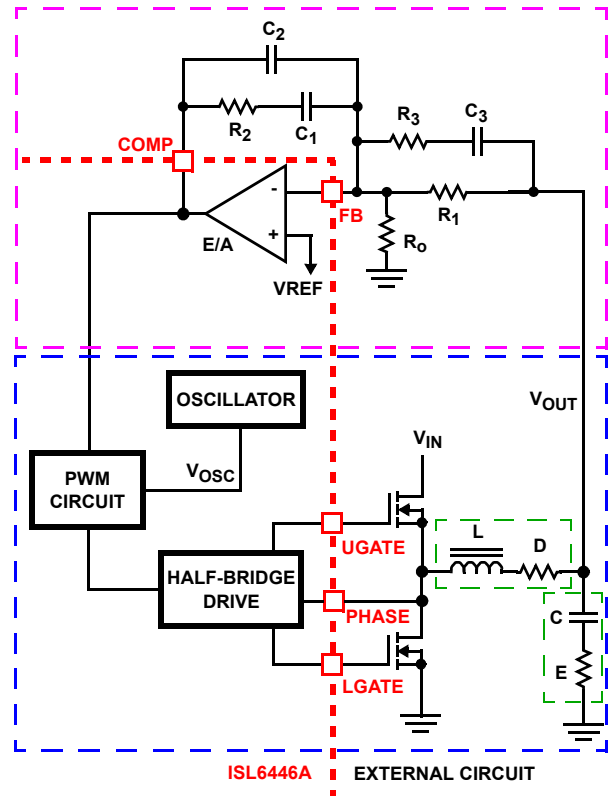

FIGURE 26. VOLTAGE-MODE BUCK CONVERTER COMPENSATION DESIGN
Figure 26 highlights the voltage-mode control loop for a synchronous-rectified buck converter, applicable to the ISL6446A circuit. The output voltage (V_{OUT}) is regulated to the reference voltage, V_{REF} . The error amplifier output (COMP pin voltage) is compared with the oscillator (OSC) modified sawtooth wave to provide a pulse-width modulated wave with an amplitude of V_{IN} at the PHASE node. The PWM wave is smoothed by the output filter (L and C). The output filter capacitor bank's equivalent series resistance is represented by the series resistor E.
The compensation network consists of the error amplifier (internal to the ISL6446A) and the external R_1 to R_3 , C_1 to C_3 components. The goal of the compensation network is to provide a closed loop transfer function with high 0dB crossing frequency (F_0 ; typically 0.1 to 0.3 of f_{SW}) and adequate phase margin (better than 45°). Phase margin is the difference between the closed loop phase at F_{0dB} and 180° . The equations that follow relate the compensation network's poles, zeros and gain to the components (R_1 , R_2 , R_3 , C_1 , C_2 and C_3) in Figure 26. Use the following guidelines for locating the poles and zeros of the compensation network:
1. Select a value for R_1 (1k Ω to 5k Ω , typically). Calculate the value for R_2 for desired converter bandwidth (F_0). If setting the output voltage via an offset resistor connected to the FB pin, R_0 in Figure 26, the design procedure can be followed as presented in Equation 13.